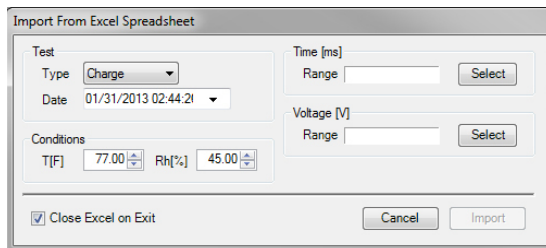

Figure 58: Autoanalysis Excel Spreadsheet Import Window
3. The source file and an Autoanalysis import window (Figure 58) will be opened and superimposed on the sheet. The **Import From Excel Spreadsheet** window allows designation of the data to be imported for analysis by the PGA-710B program.